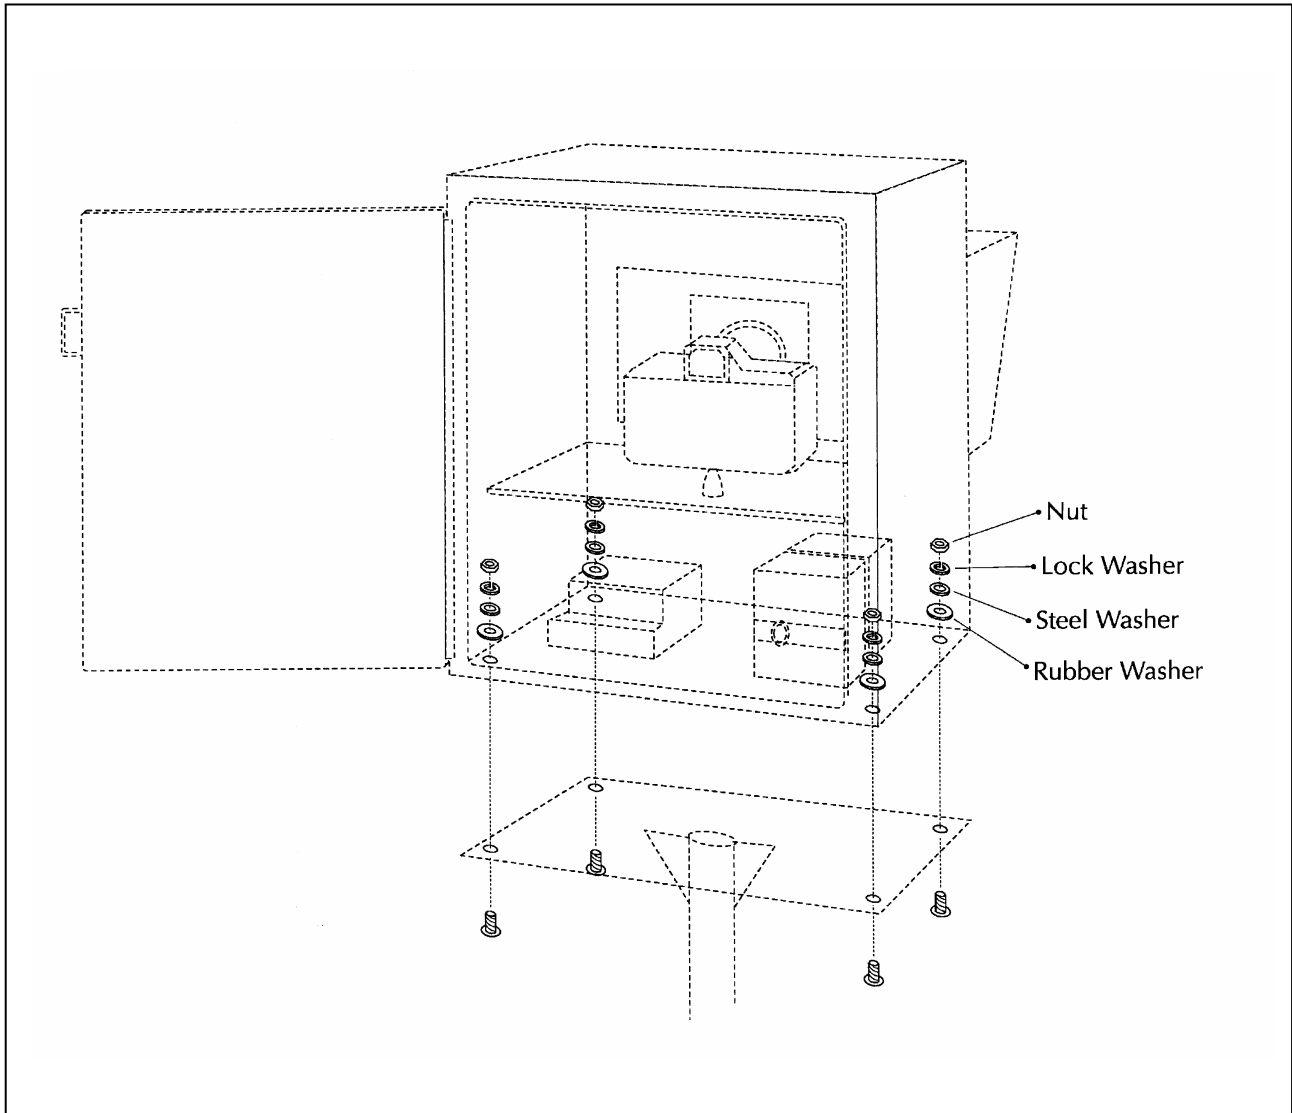

Figure 4-7. Enclosure Mounting Configuration.
Mount the Hoffman-type enclosure to the mounting plate with the four (4) short carriage bolts, lock washers, and nuts provided with the enclosure, as depicted in Figure 4-7. The rounded carriage bolt heads should be on the underside of the mounting plate.